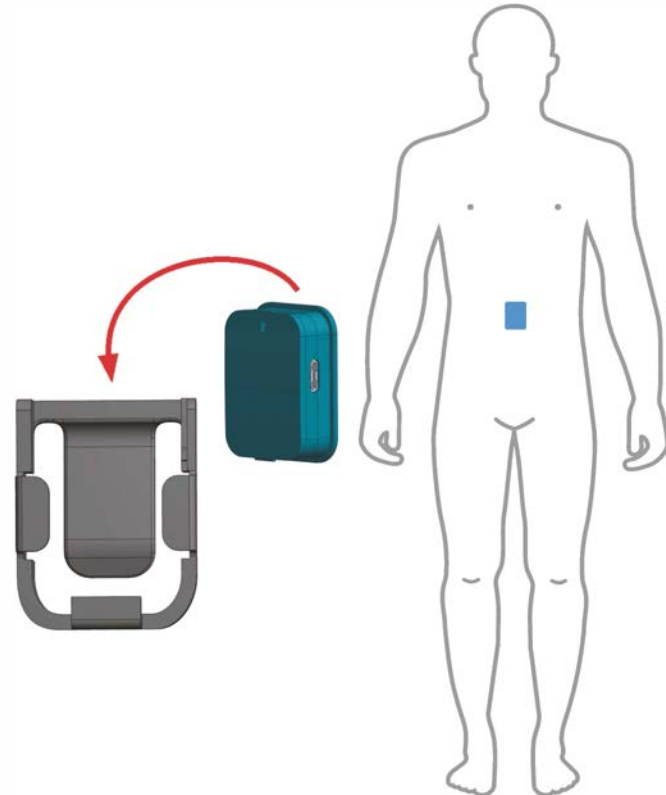

Figure 16. PDMonitor® Monitoring Device on waist
- You should wear the last (fifth) Monitoring Device for the waist position using the provided clipframe to the appropriate body position (Figure 16). Another way to wear it, is with the appropriate strapframe and strap to the waist